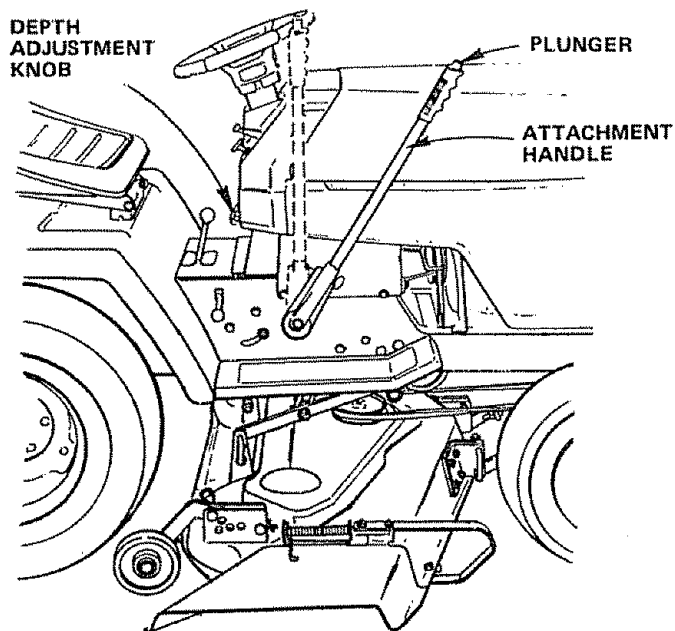

FIGURE 25
5. Use Attachment Handle to lower mower into cutting position. Start mowing at slow speed and increase ground speed by increasing throttle as conditions will permit. Average cutting height is approximately 2 - 1/2 to 2 - 3/4 inches. Height of cut can be adjusted by means of the Depth Adjustment Knob (Fig. 25). Turn Depth Adjustment Knob (clockwise (↻) or counterclockwise (↻)) to match pre-selected Lift Control Lever mowing height.